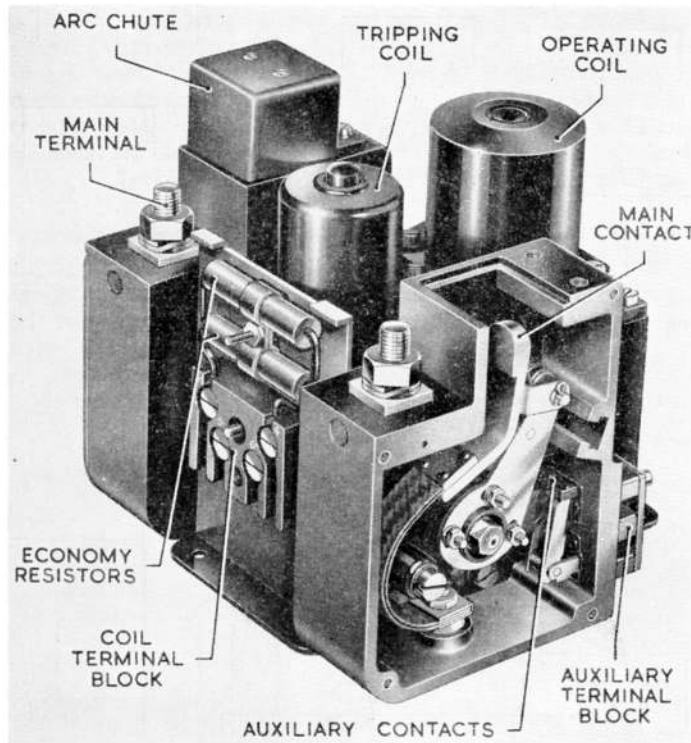

Fig. 2. View of switch with covers removed
2. The unit is generally similar to others in the D.9600 series (A.P.4343, Vol. 1, Sect. 11, Chap. 18), with the exception that the bi-metal element is not fitted and that economy resistors (Figs. 2 and 3) are connected in parallel with the coil safety switch so that the operating plunger is held in after the switch has latched (as long as 28 volts are supplied to the coil terminals). A busbar replaces the bi-metal element and electrically connects the two moving contacts. In the absence of a bi-metal element, the switch may only be tripped magnetically or manually. The economy resistors are mounted